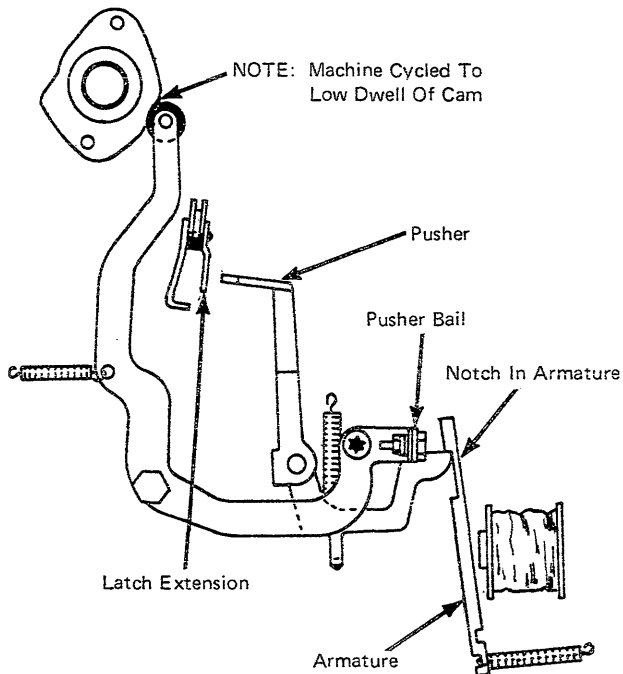

Figure 1-17. Inactive Pusher Clearance
- 13.5 Malselection or parity errors may be caused by the latch pushers contacting their latch extensions when unselected and held by the selection magnet armature. To check this clearance (affected by magnet assembly vertical position and by pusher-to-latch extension rest clearance), turn machine power off, trip the clutch, and hand crank a few degrees into a cycle. The pusher cam follower should be on the low dwell of the pusher cam. Check for the clearance shown in Figure 1-17.